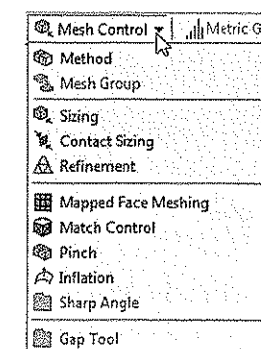
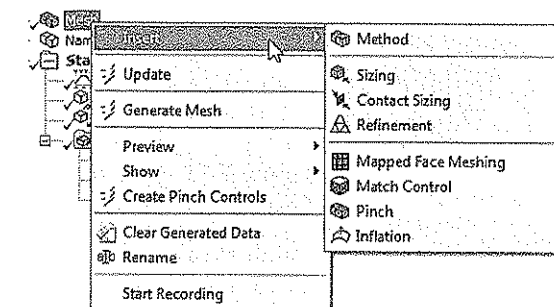

Figure 7-89 Options in the Mesh Control drop-down
Figure 7-90 Various local mesh control options in the shortcut menu
An effective mesh can be generated by changing the settings for a particular zone or region of the model. These settings are also known as local mesh control settings. The various local mesh control tools can be accessed from the **Mesh Control** drop-down in the **Mesh** contextual toolbar, as shown in Figure 7-89. These options can also be accessed from the shortcut menu displayed when you right-click on the **Mesh** node in the Tree Outline, as shown in Figure 7-90.
1. Right-click on the **Mesh** node in the Tree Outline; a shortcut menu is displayed, refer to Figure 7-90.
2. Next, choose **Insert > Method** from the shortcut menu, refer to Figure 7-90; **Automatic Method** with a question symbol is added under the **Mesh** node in the Tree Outline. Also, the **Details of "Automatic Method"** window is displayed.